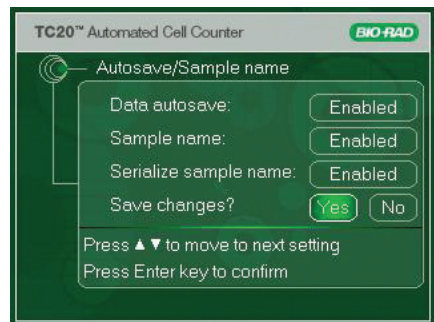

Fig. 8. Setting up data export and sample naming.
2. Press the **down** arrow key to go to **Autosave/sample name** (Figure 8), and press **Enter**.